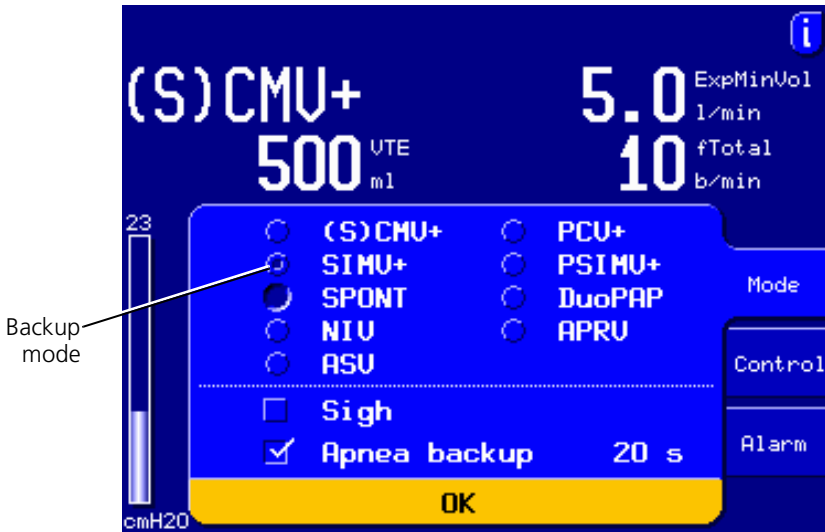

Figure 4-2. Mode window
1. Open the mode window (Figure 4-2) by pressing the Mode key.